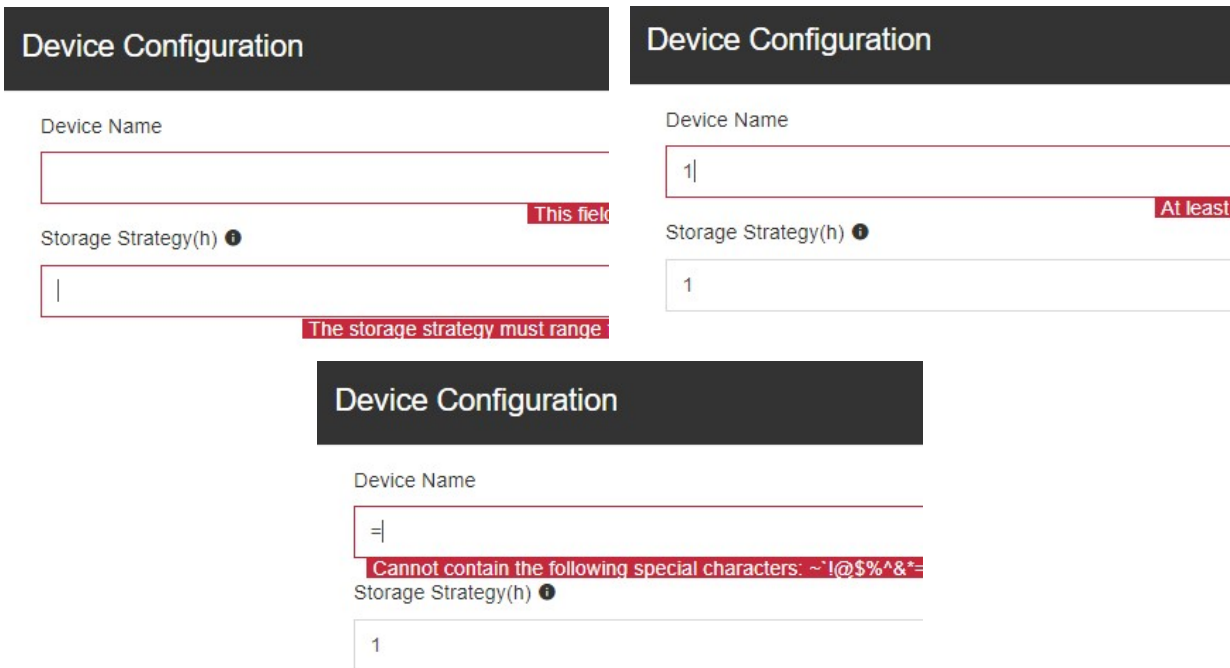

Figure 6-20 Incorrect input format
3. If the input format is incorrect, the system displays prompt information below the edit box (as shown in Figure 6-20), and the **SAVE** button is unavailable.